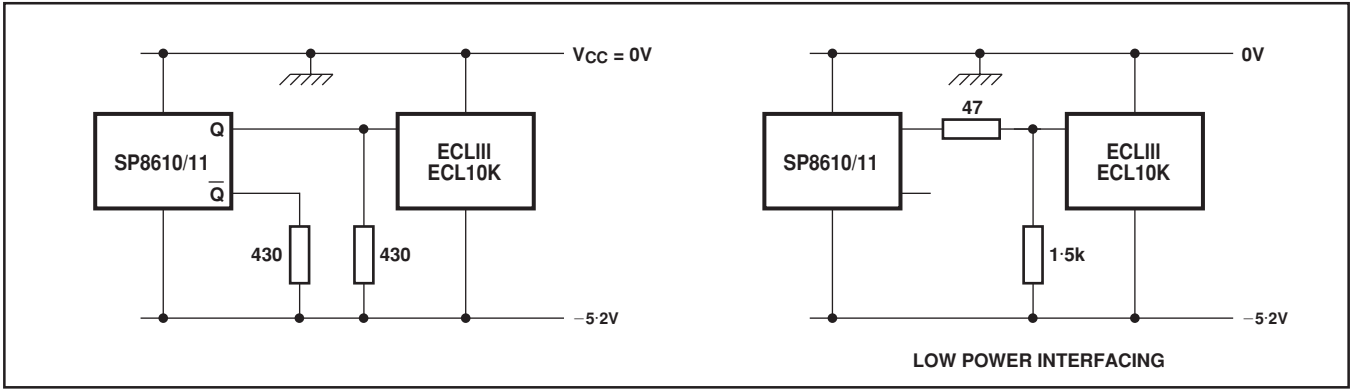

Fig. 7 Interfacing SP8610/11 to ECL10K and ECLIII
5. The emitter follower outputs require external load resistors. These should not be less than 330Ω and a value of 430Ω is recommended. Interfacing to ECLIII/10K is shown in Fig. 7.